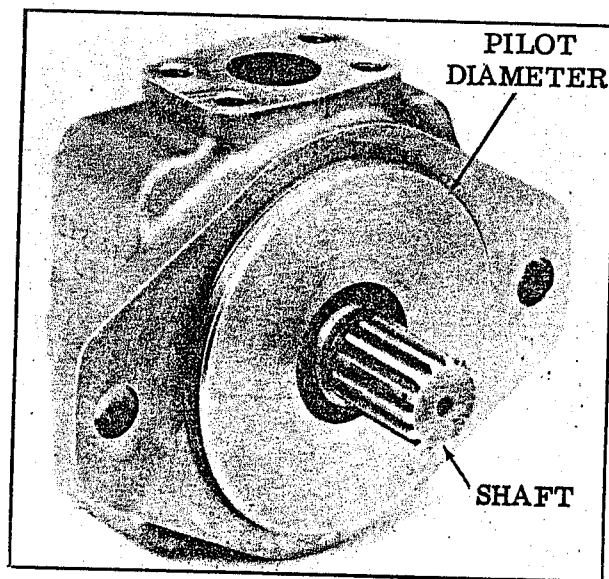

Figure 7. Pilot Diameter
1. Direct Drive: A pilot on the pump mounting flange (Figure 7) assures correct mounting and shaft alignment, provided the pilot is firmly seated in the accessory pad of the power source. Care should be exercised in tightening all flange mounting screws to prevent misalignment.